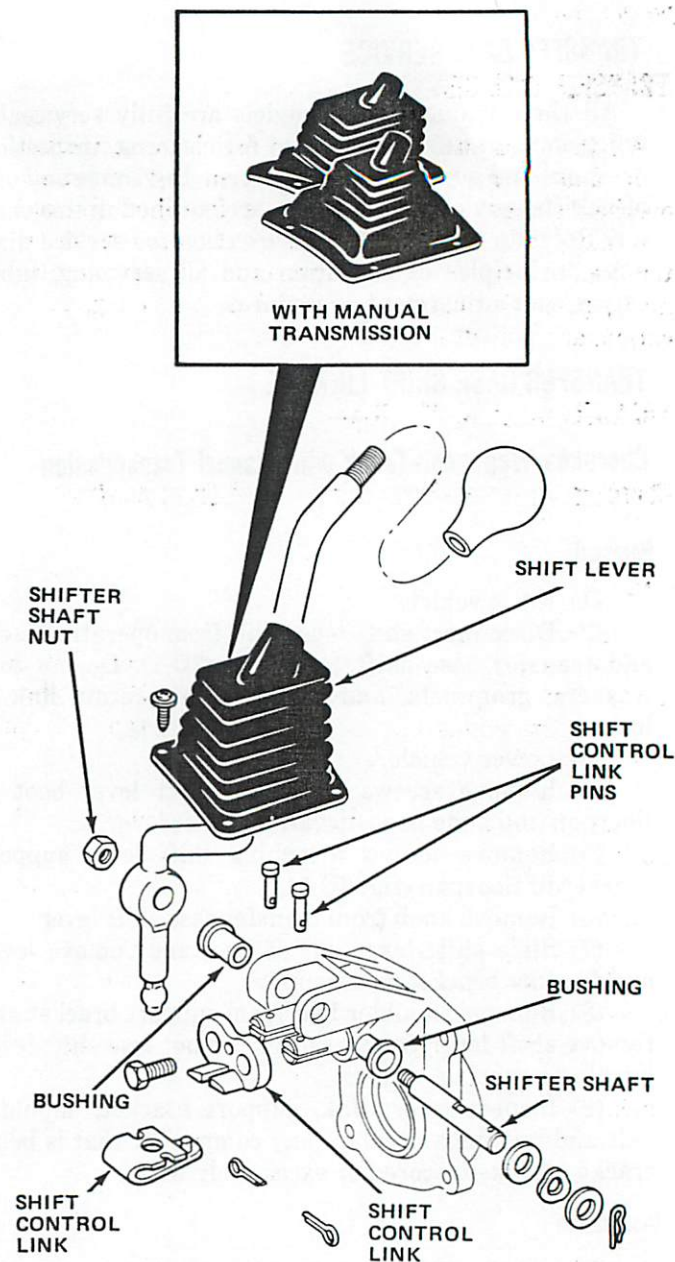

Fig. 2D-3 Transfer Case Shift Linkage—
(1) Remove screws that attach shift lever boot to floorpan.
(2) Remove shift lever knob and slide boot up and off lever.
(3) Raise vehicle.
(4) Remove shifter shaft retaining nut (fig. 2D-3).